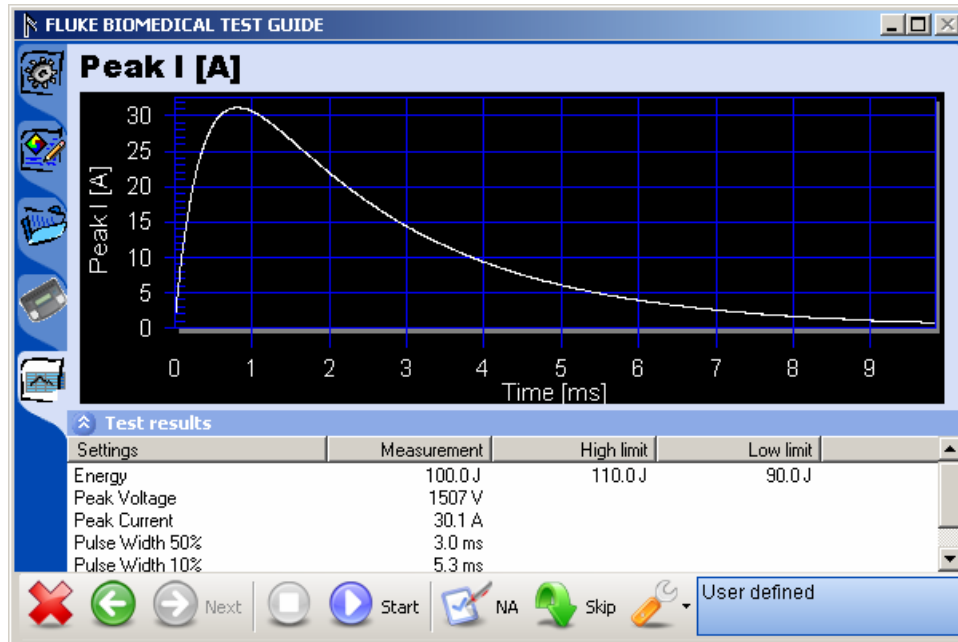

Figure 3-3. Graph of Discharge Curve
1. First connect the defibrillator to the Analyzer (refer to the *Impulse 6000D/7000DP Users Manual* for connection instructions) and set the defibrillator to the energy setting displayed in the information block in the right pane of the **TEST GUIDE** window. Figure 3-3 shows an energy setting with both high and low limits (in Joules).
6. To view a graph of the discharge curve, as shown in Figure 3-3, click the graph tab located along the left side of the **TEST GUIDE**.